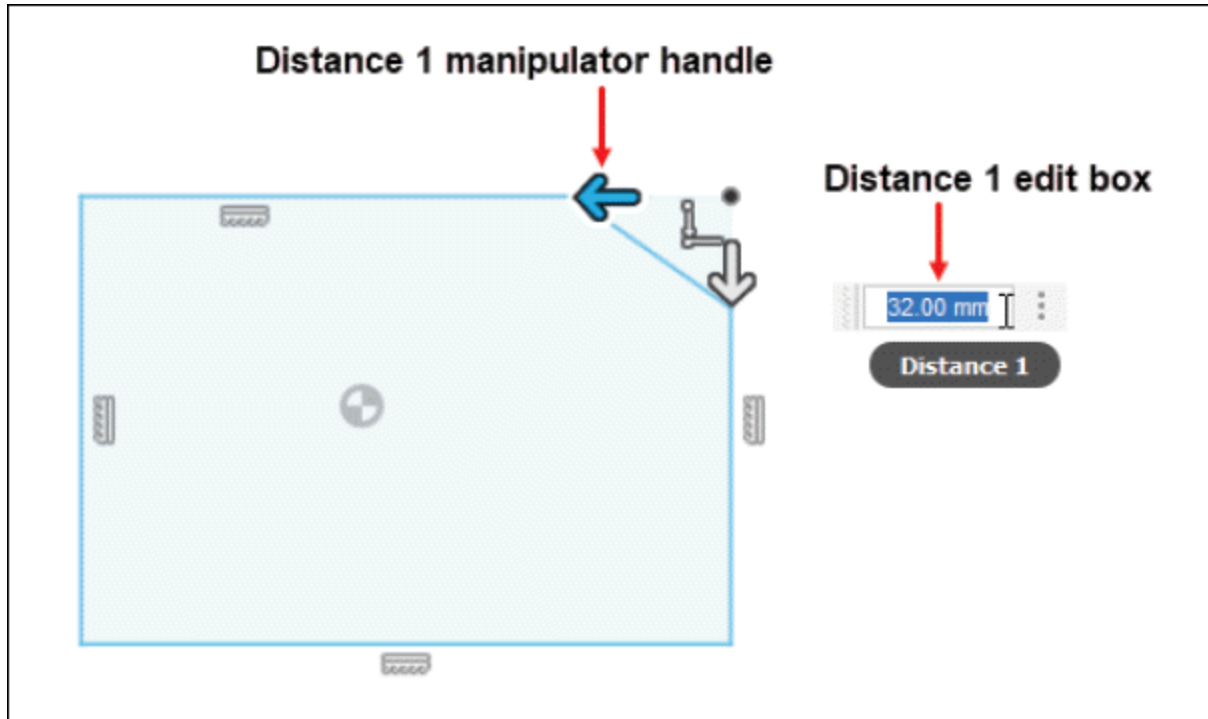

Figure-75. Specifying the first distance of chamfer
- Click on the vertex or on the second line of the sketch and type desired value for the first distance in the **Distance 1** edit box or drag the highlighted distance manipulator handle to specify the first distance of chamfer; refer to Figure-75.